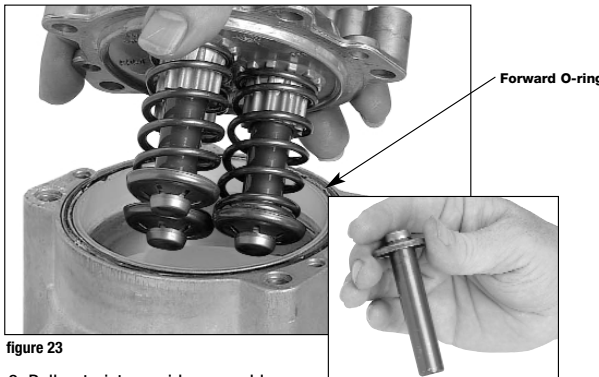

figure 23
3. Pull out piston guide assembly. (figure 23)